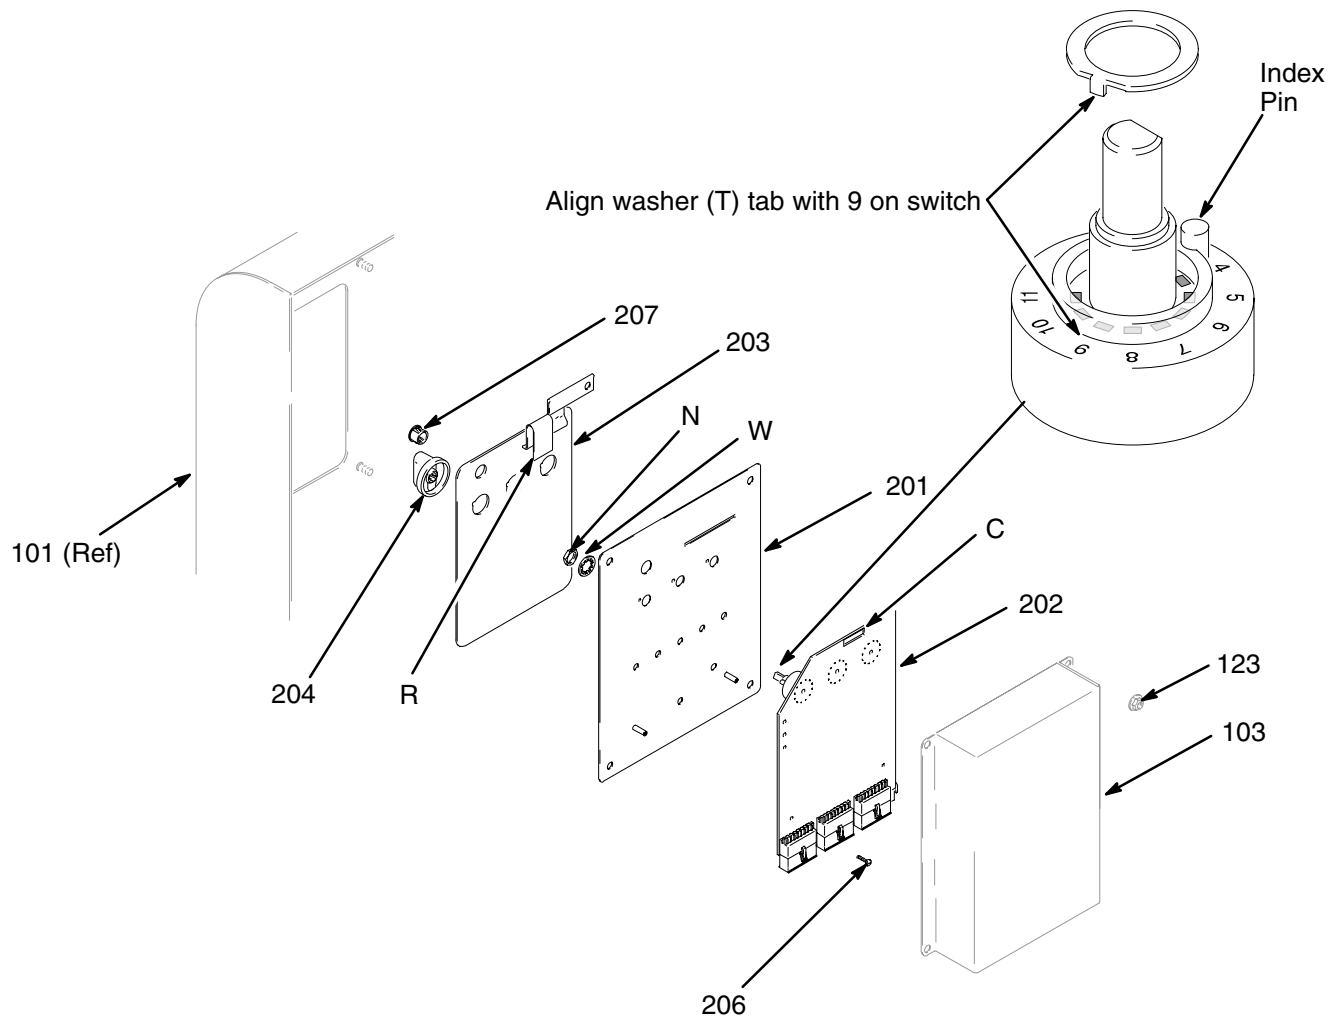

Fig. 14
1. Remove the nuts (123) and take off the circuit board cover (103). See Fig. 14.
2. Pull the knobs (204) off the shafts of the switches.
3. Remove the nuts (N) and star washers (W) from the switches. Do not remove the tab washers (T).
4. Remove the screws (206).
5. Unplug the membrane ribbon cable (R) from the connector (C) on the circuit board (202).